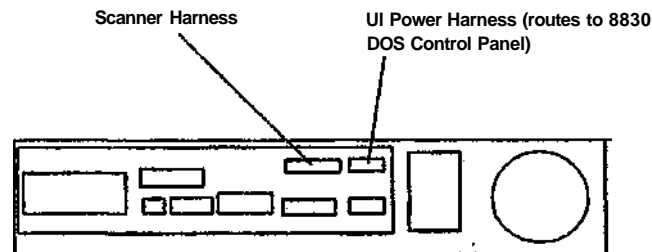

Figure 12 Signal and UI Power Harnesses on 8830 Controller Connector Panel
27. (Figure 12): Note the location of the Scanner and UI Power Harness connectors on the new 8830 Controller Connector Panel. (Do not attempt to route the harnesses yet.)